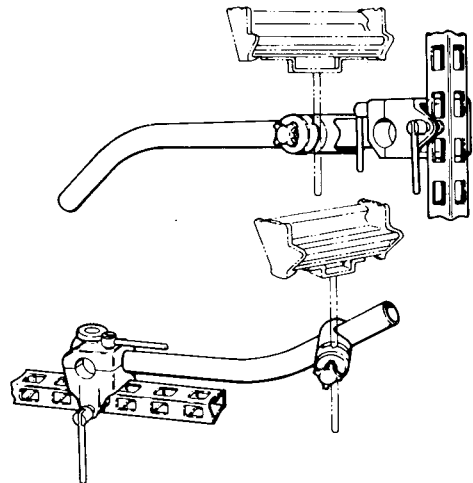

Fig. 8—4045-K Universal Splicing Head Support.
b. The 4045-K Universal Splicing Head Support Assembly is designed to hold the MS2 Splicing Head so it can be used in a variety of locations and positions. The splicing head assembly consists of a head clamp, support tube, and vise. The head clamp holds the splicing head pedestal to the support tube. The vise can be clamped to a round or flat surface. See Figure 8.